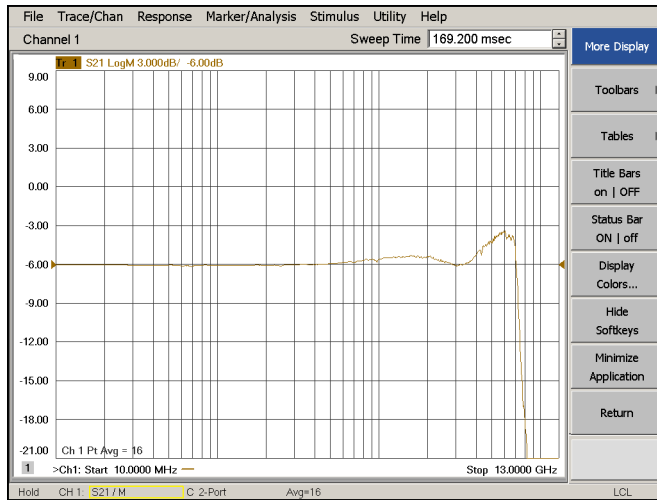

Figure 51 Vout/Vin Response
**26** Press **[Scale]** > **Reference Level** and adjust the reference level so that the 50 MHz point is at center screen. See **Figure 51** on page 72.